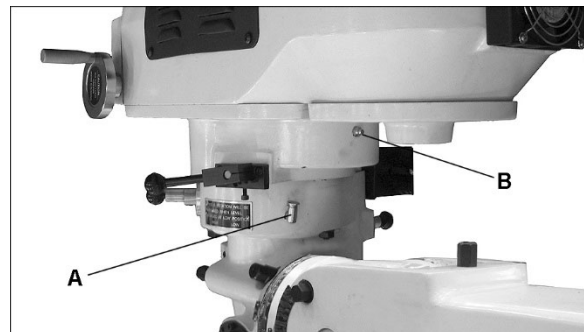

Figure 15: Lubrication points
Refer to figures 15 and 16 for areas of the mill to lubricate:
- Spindle Bearings (A, Figure 15) – fill oil cup once daily with Mobil DTE® Oil Light or equivalent.
- Zerk fitting for back gear (B, Figure 15) – Insert Mobilith AW1, or equivalent, weekly when operating in back gear mode.